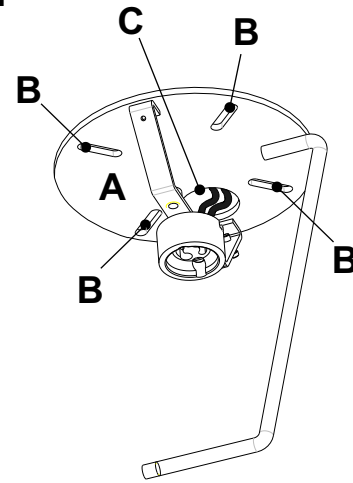

FIG. 2
- Fig.2.** Cover the wire housing with the metal cone "E" and lock it on the structure by the two side screws.
- Fig.2** Insert the bulb into the lampholder through the opening "F" provided.